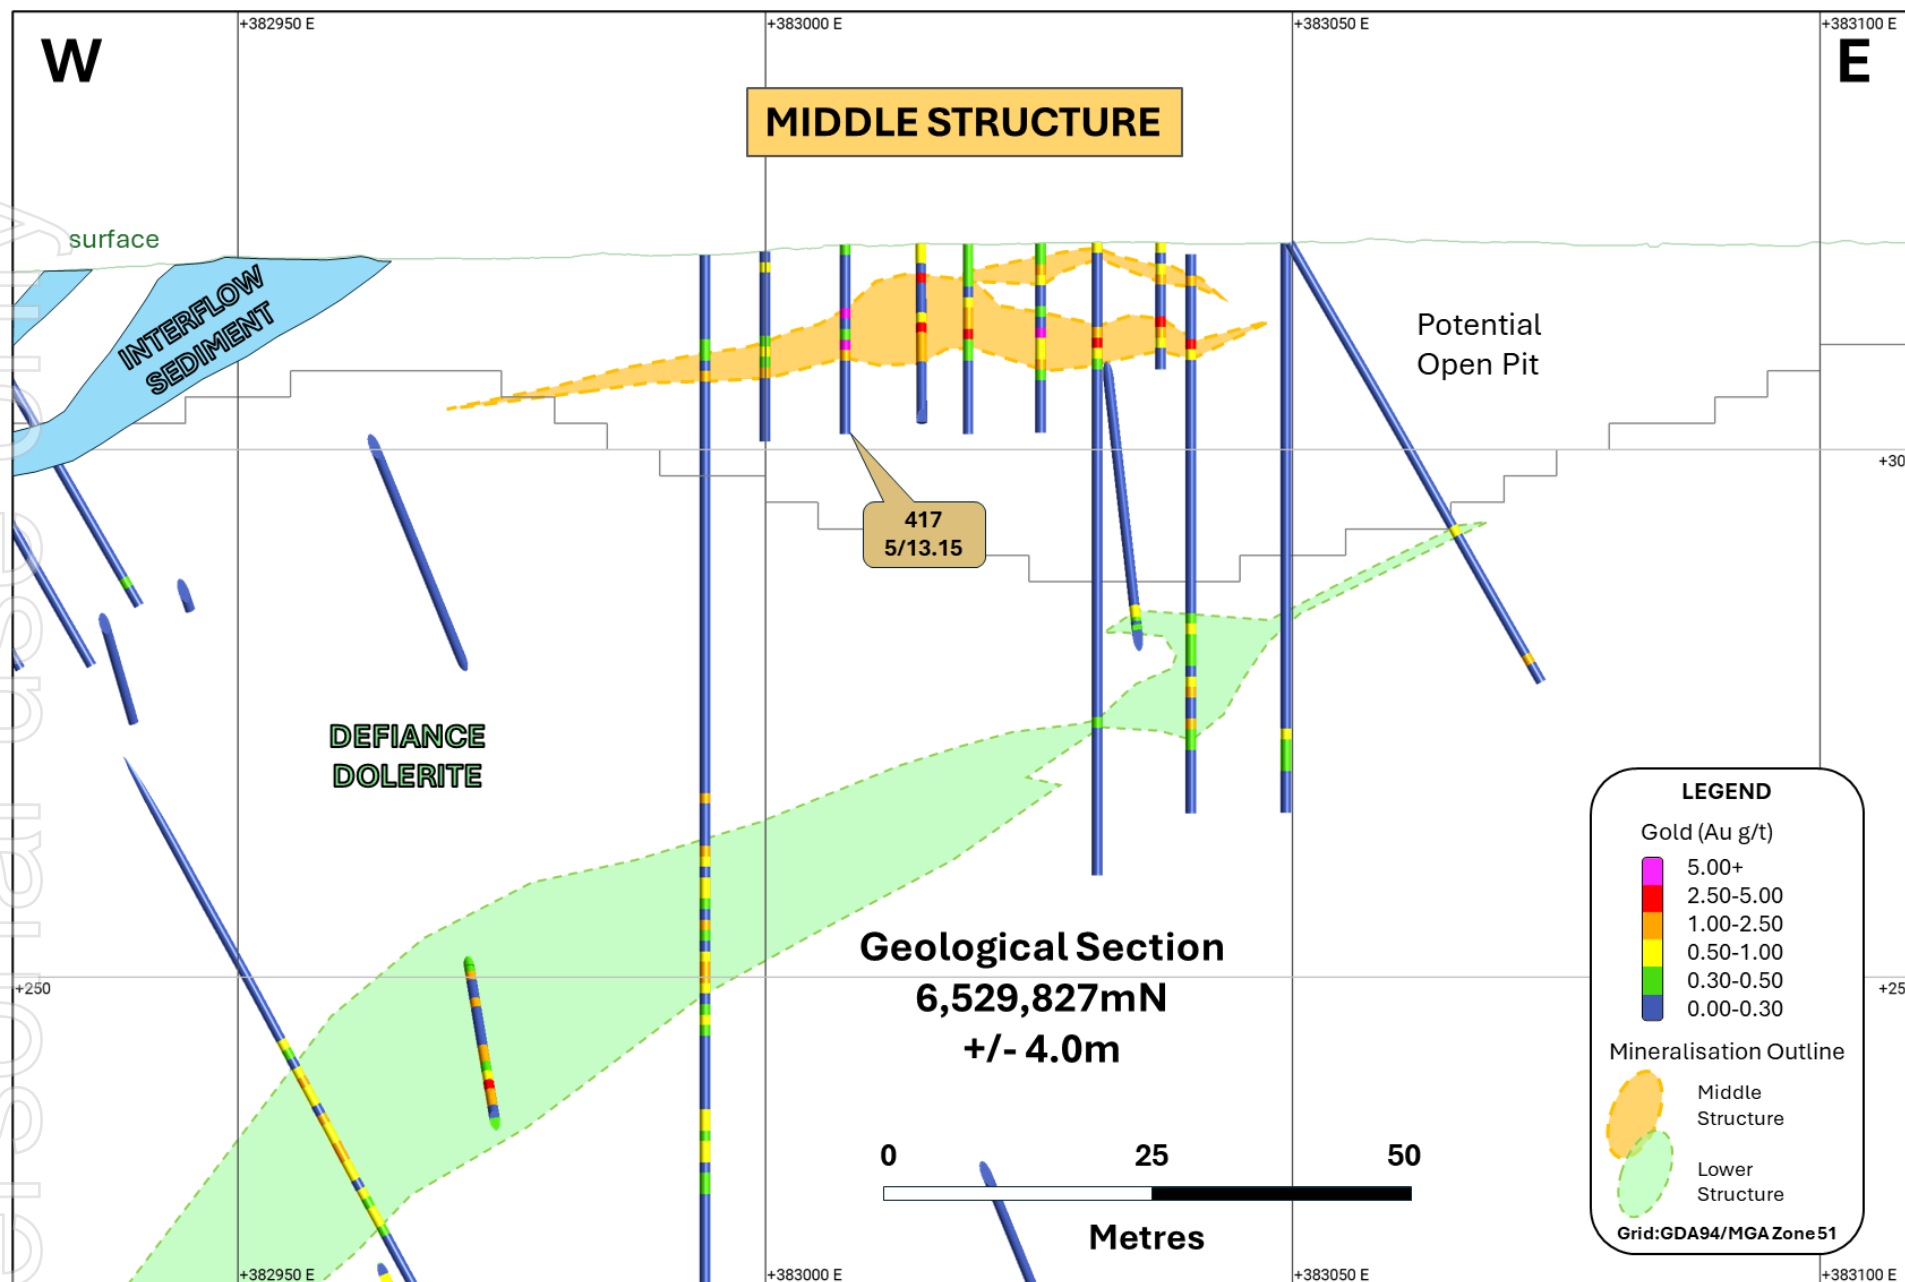

Figure 4: Section 6,529,827mN (looking north +/- 4m) illustrating the results reported today (gold call-outs).
- **Middle Structure – Figure 4** section 6,529,827mN highlighting one result on this structure within the current development footprint/mine design.